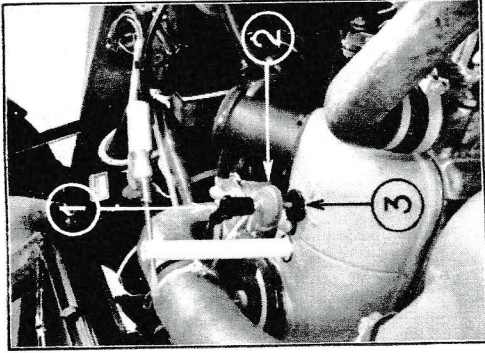

Figure 19
### Replacement of a spark plug (fig. 19).
- Disconnect the spark plug feed wire end-piece 1 (fig. 19).
Unscrew the plug levering it up with a screwdriver (fig. 19). The copper asbestos washer must remain on the plug barrel.